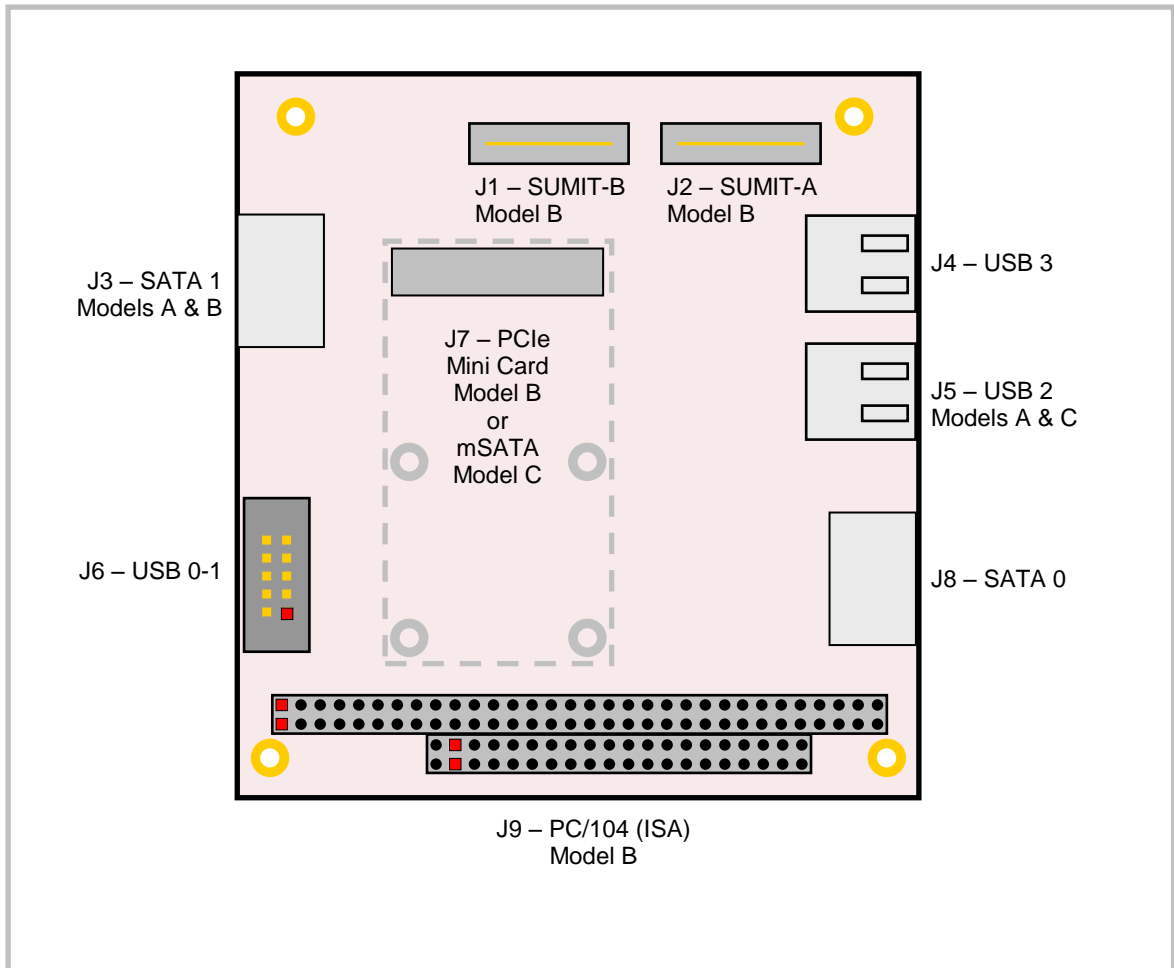

Figure 4. VL-EPMs-M1 Connectors – Top Side
1. The PCB origin is the center of the mounting hole located in the lower left, as oriented in Figure 4.